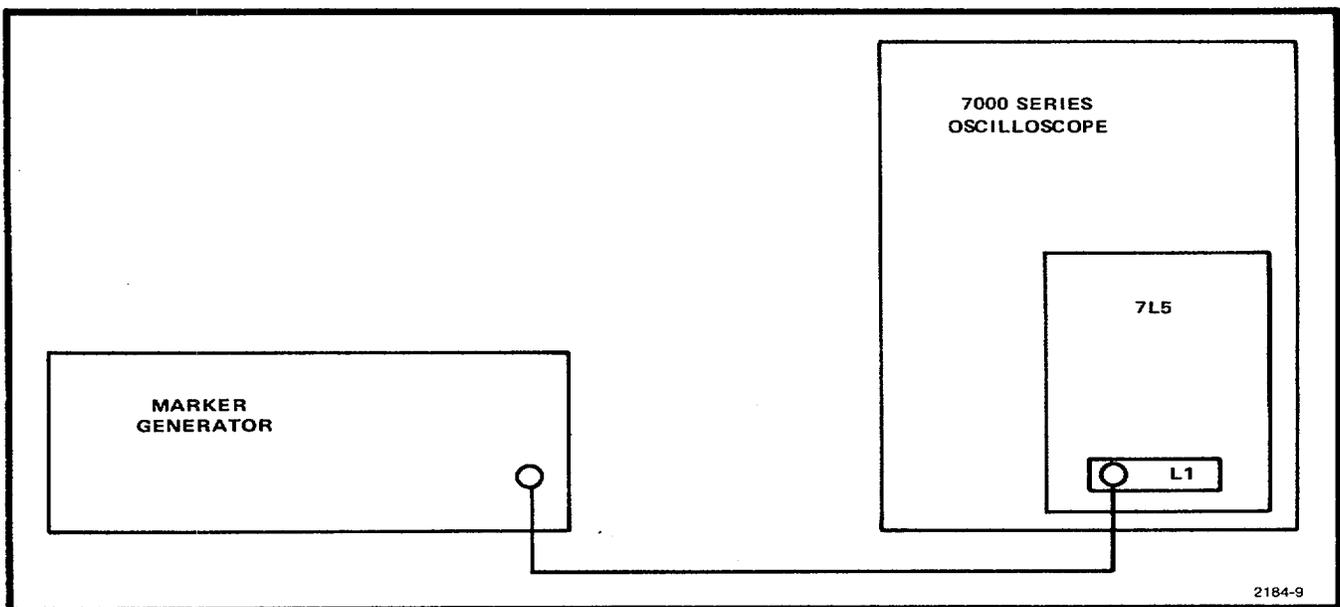

Fig. 3-3. Frequency span accuracy and linearity test equipment setup.
c. Connect the test setup in accordance with Fig. 3-3 and set front panel controls as follows: